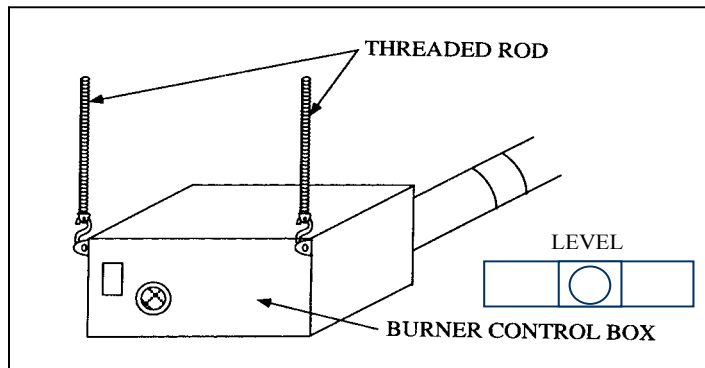

Figure 2-6
**NOTE:** If windy conditions exist in the space around the heater, it may be necessary to rigidly mount the heater to prevent swaying. It is recommended that threaded rod be used for the two hanging points at the burner control box (see Figure 2-6). The remaining hanging points should use chains to allow for heater expansion.
4. Do not rotate control burner box. Mount level as shown in Figure 2-6.